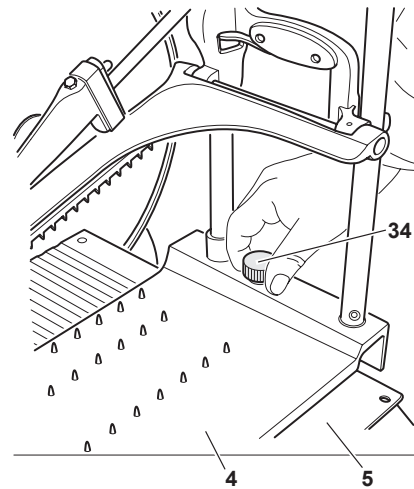

Figure 15-4
3. Tighten knob (34) on product holder (4) to secure product holder and pusher (3) to carriage (5) (Figure 15-4).